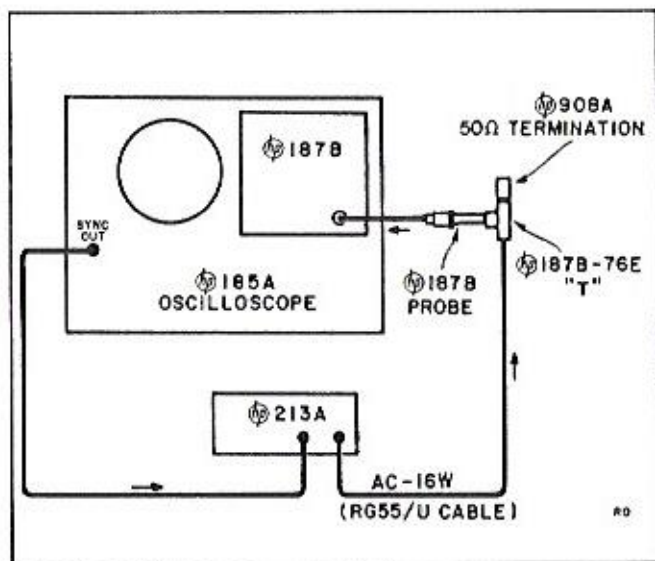

Figure 3-1. Test Setup for Measuring Rise Time and Overshoot
c. Connect Model 185A/B SYNC PULSE OUTPUT to TRIGGER of Model 213A pulse generator. See figure 3-1. (If Model 185A Oscilloscope has serial prefix 023- or above, set Model 213A TRIGGER to POS; for Model 185A prefix below 023 and Model 185B set TRIGGER to Neg.)
- (1) Adjust Delay to place step at right end of display such that first sample at left of display is 50 to 100 mv above display base line.
- (2) Set ADJUST of Channel A to make second sample part of base line.